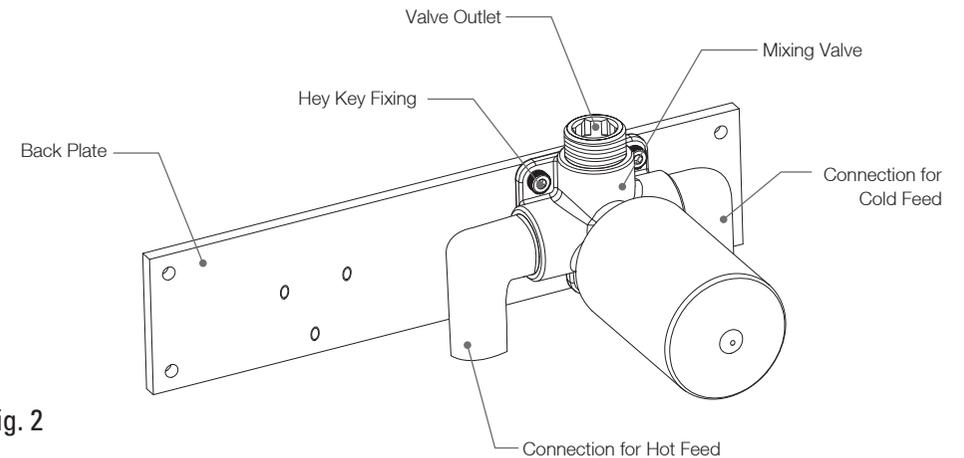

fig. 2
- Once you have chosen the orientation of the handle attach the mixer valve to the back plate using the hex key fixings provided. Ensure the valve outlet is facing up. At this point install the intended initial connections (not supplied) to the valve body, so that the valve is ready to commission. Connection to the hot feed must be on the left inlet. NB - Make initial connection only, for easier connection of the final hot and cold plumbing later. (fig 2)